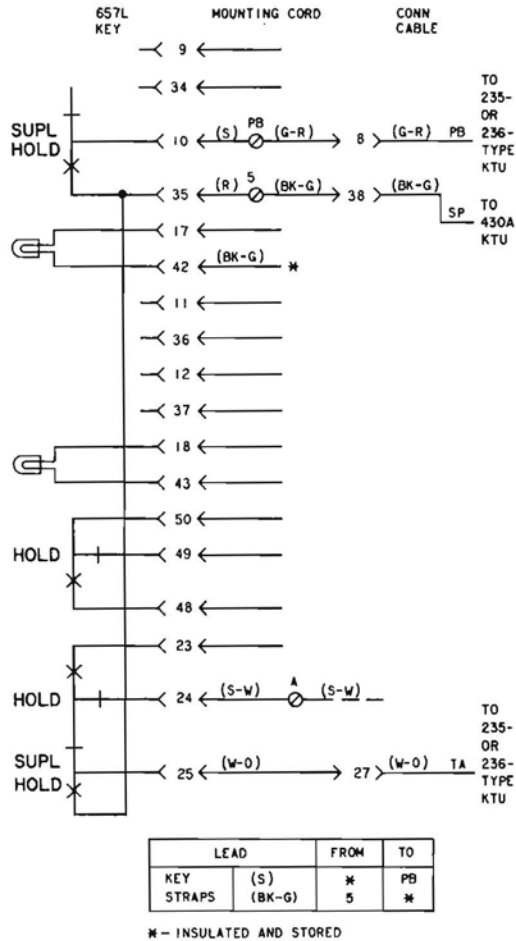

Fig. 6—Priority Hold, Using 657L Key
- Add modification table, Fig. 6
**2.04** When station busy lamp feature is required with these sets having 1A1 or 1A2 KTS line circuits, a P-90D033 Printed Wiring Board Assembly must be ordered separately and installed in the 636- or 637-type telephone set. With this option, the busy lamp will light whenever a line pickup button is depressed and the handset is off-hook or the headset is plugged into the jack. See Fig. 6 for connections and Section 502-600-100 for installation procedures.
**2.05** Sets equipped with a D120C mounting cord manufactured prior to III-68 must use circuit per Fig. 6 to provide station busy lamp feature.